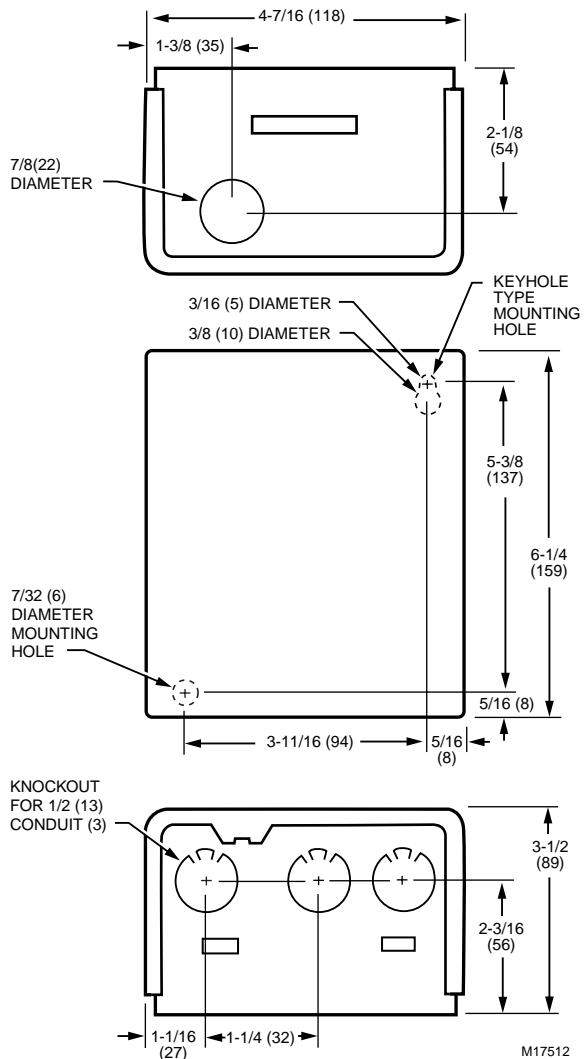

Fig. 1. RA889A dimensions in in. (mm).
Dimensions: See Fig. 1.
1. Position the relay and mark the mounting holes. See Fig. 1.